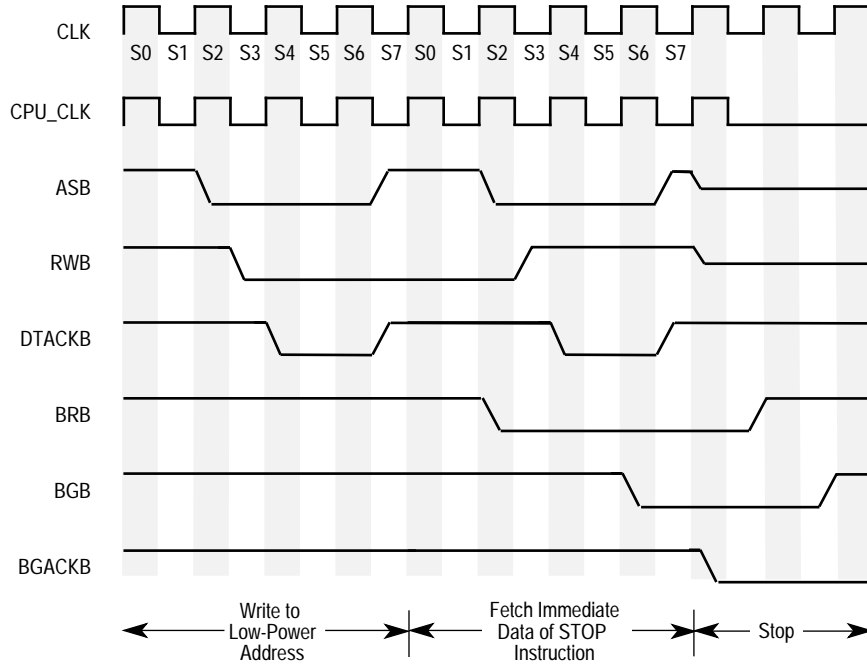

Figure 4. Clock Stop Timing with Bus Arbitration for 16-bit Data Bus
- 3.) This step is optional depending on whether the user's applications require the three-stateable signals of the SCM68000 to be put into a high-impedance state. To put the SCM68000 into a three-state condition, the proper method for arbitrating the bus as described in **3.2 Bus Arbitration** in the *EC000 Core Processor (SCM68000) User's Manual* should be completed during the fetch of the status register data for the STOP instruction. A timing diagram with the bus arbitration sequence is shown in Figure 4.